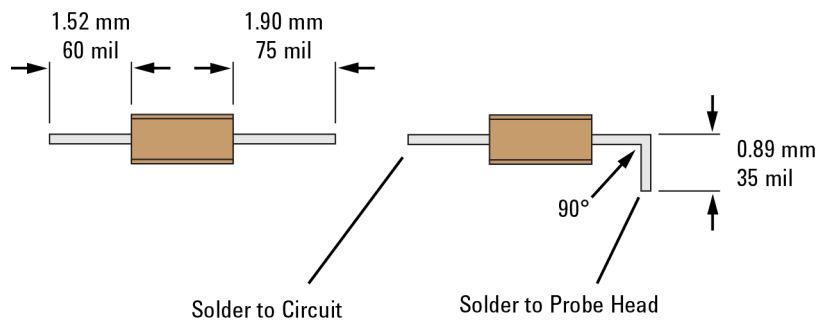
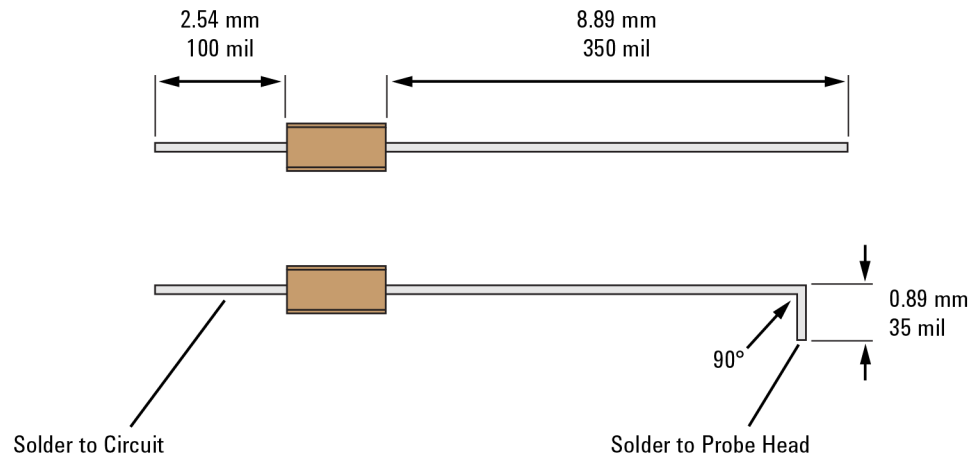

Figure 47 91Ω and 0Ω Combination Resistor Trim Dimensions
Figure 48 150 Ω and 0 Ω Combination Resistor Trim Dimensions
- 9 Using another pair of tweezers, bend the 1.90 mm or 8.89 mm lead 90° as shown in **Figure 47** and **Figure 48**.